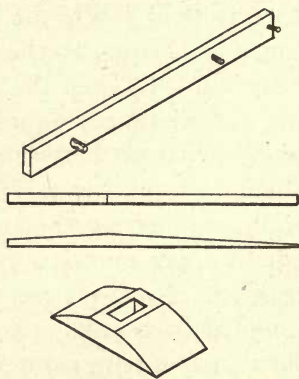

FIG. 100.—CATCH, SPRING, AND SLOT OF GATE.
4. **Making catch, spring, and slot.** — The catch should be made of some hard wood  $1'' \times 3'' \times 4' 6''$ .  $1''$  from one end a  $\frac{1}{2}''$  hole is bored,  $12''$  from the same end another  $\frac{1}{2}''$  hole is bored,  $9''$  from the other end another hole of the same size is bored. Hard wood pegs should be fitted in these holes. The one for the first hole needs to be about  $3''$  long, while the other should be about  $5''$  long so that it can be handled easily in pulling back the catch to open the gate (Fig. 100). The spring should be made of hickory  $3' 3''$  long and about  $1''$  square.
post is large; otherwise one can be made from a block of hard wood, as shown in Fig. 100, and nailed to the post. Lay the catch where it belongs on the gate and nail over it two strips in line with the two uprights.